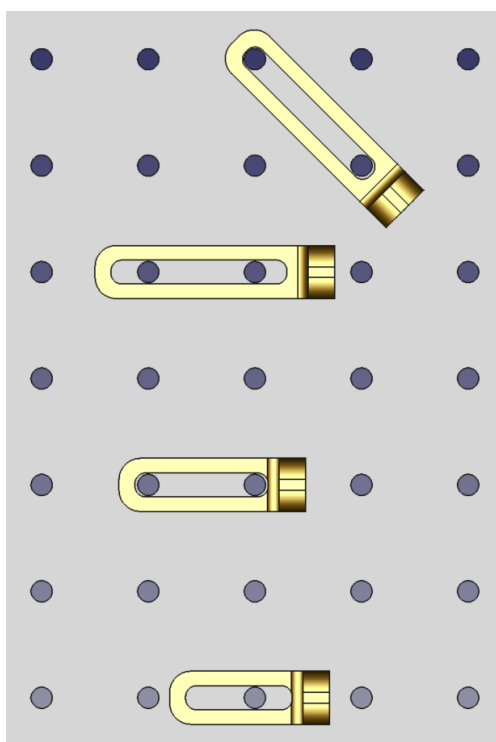

Figure 1: Mounting options onto 20 x 20 mm grid
- Model 30 x 70, any direction using one screw (bottom in Fig. 1)
- Model 35 x 100, any direction using one screw, two screws possible in certain positions along main grid axis (2nd from bottom in Fig. 1)
- Model 45 x 150, any direction using one screw, two screws possible also diagonally (top two units in Fig. 1)